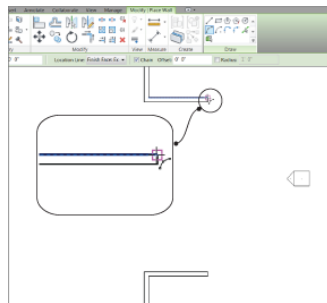

FIGURE 1.29: Select the top corner of the wall to start your new radial wall.
8. With the wheel button on your mouse, zoom into the upper corner of the building and select the top endpoint of the wall, as shown in Figure 1.29. The point you're picking is the corner of the heavy lines. The topmost, thinner line represents a concrete belt course below. If you're having trouble picking the correct point, don't be afraid to zoom in to the area by scrolling the mouse wheel. (Metric users do not have the concrete belt. Just pick the outside heavy line representing the brick face.)